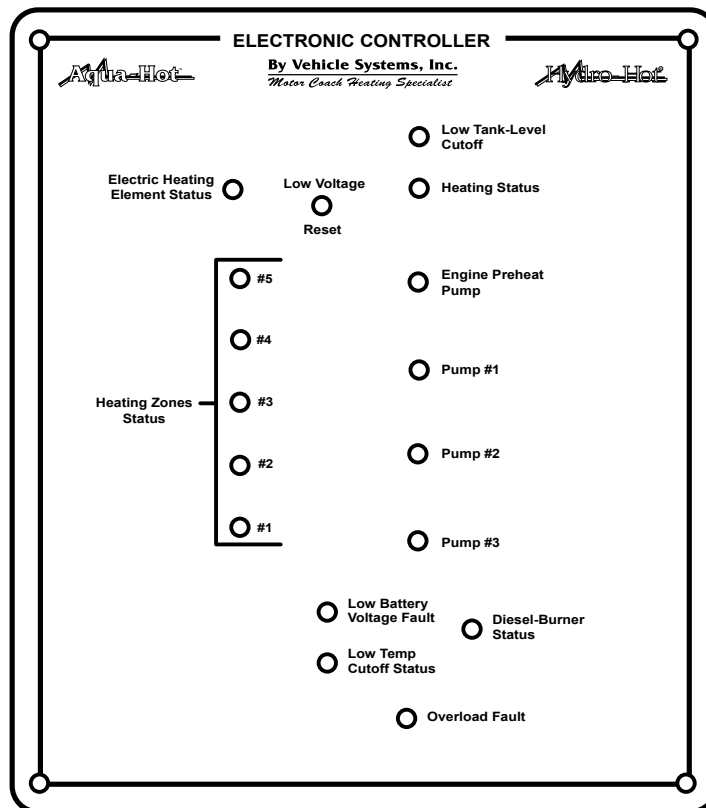

Figure 5
NOTE: The Hydro-Hot's "Domestic Water Priority System" disables the interior Zone Heating Fans, Zone Circulation Pumps, and the Engine Preheat Pump (if applicable) whenever domestic hot water is being used on a continuous basis (i.e. during showers). Once the demand for continuous domestic hot water ceases the Hydro-Hot will enable the Fans and Pumps to operate and provide heat to the Heating Zones. Please note that the Electronic Controller's Low Temperature Cutoff Status indicator light will illuminate GREEN whenever the Hydro-Hot is able to provide zone heating, reference **Figure 5**.
If the Hydro-Hot's Diesel switch "**Indicator Light**" does not illuminate, and the Diesel-Burner is not functioning, locate the Electronic Controller (**Figure 5**) and check the following:
- A. Check the Hydro-Hot's Electronic Controller for any RED lights indicating a fault condition. Reference **Figure 5** and the Electronic Controller Troubleshooting section to identify these fault conditions.